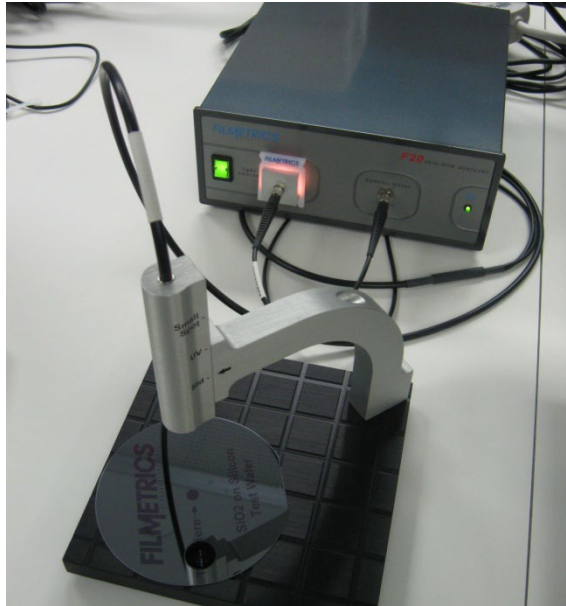

Figure 2: F20 and sample stage.
- b) Turn on the light source (green switch in Figure 2).
- b) Turn off the light source (green switch in Figure 2).